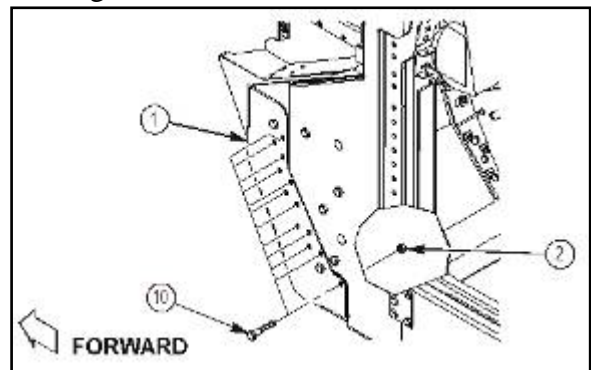

Figure 30a
25. Remove twelve capscrews (10) and locknuts (2) from vehicle body (1) as shown in figure 30a. Discard all fasteners.